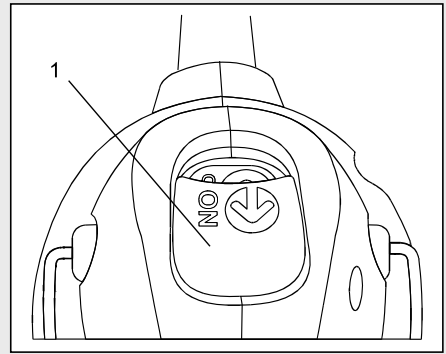

Fig. 5
This cut-out saw is equipped with a convenient ON/OFF switch (1) located on the top of the tool handle (Fig. 5). To turn the switch ON, slide the switch outward. To turn the switch OFF, slide the switch inward.